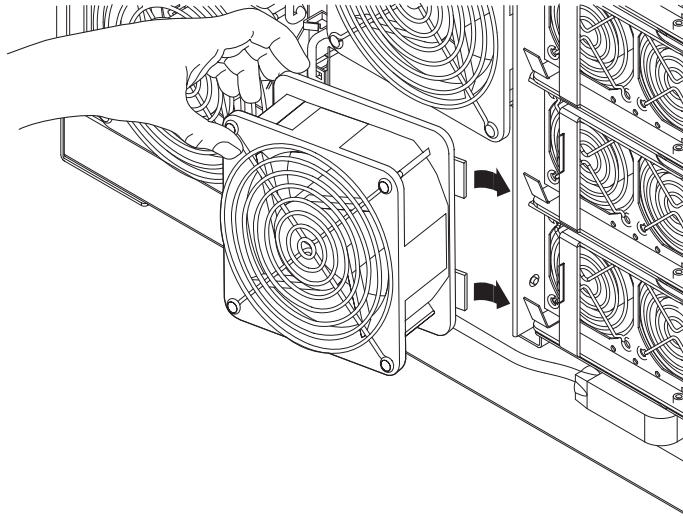

FIGURE 7-4 Inserting a Fan Into the Fan Tray
3. Orient the fan so that the two lugs on the metal carrier engage in the cutouts in the fan tray (FIGURE 7-4).